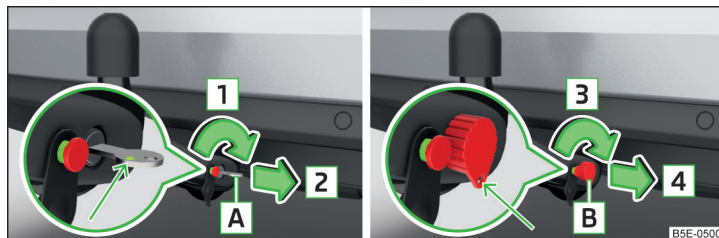

Fig. 183 Lock lock: Key Version 1 / key Version 2
- > Turn key **A** in the direction of arrow **1** so that the green marking is pointing upwards » Fig. 183.
- Turn the key [B] in the direction of arrow [3] so that the conclusions release points down » Fig. 183.